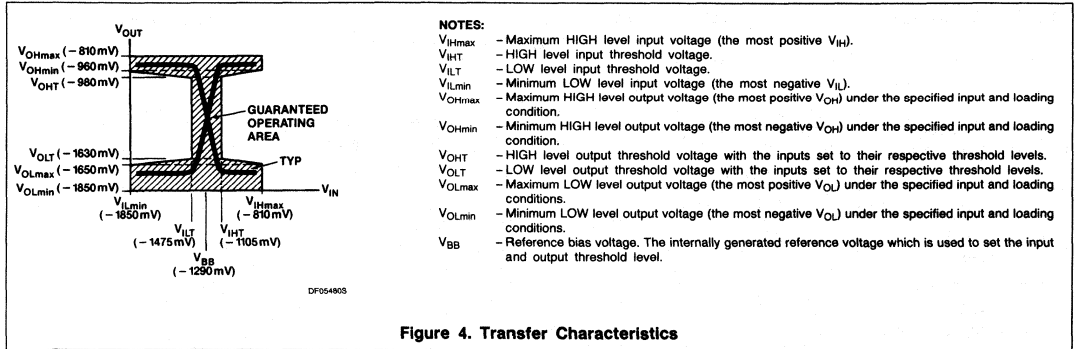

Figure 4. Transfer Characteristics
3. The specified limits shown in the DC Characteristics can be met only after thermal equilibrium has been established. Thermal equilibrium is established by applying power for at least 2 minutes while maintaining transverse air flow of 2.5 meters/s (500 linear feet/min) over the device either mounted in the test socket or on the printed circuit board. Test voltage values are given in the DC Operating Conditions and defined in Figure 4.